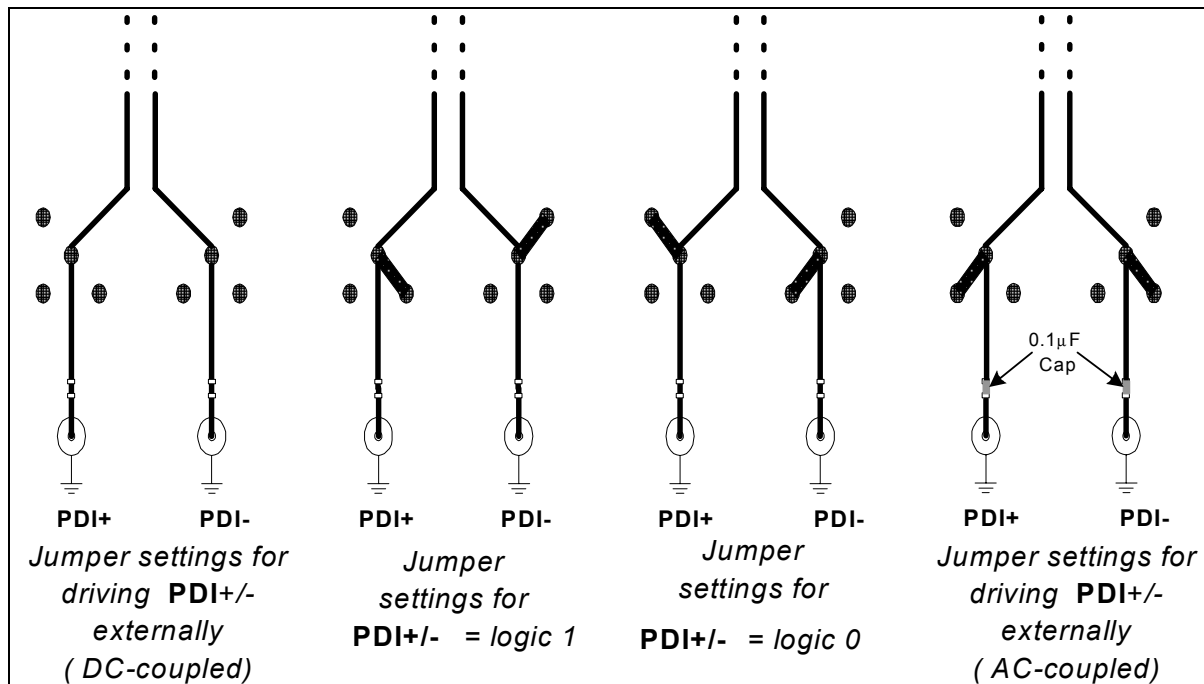

Figure 2. PDI \pm Jumper Settings
The MAX3952 EV kit simplifies evaluation of the MAX3952. The EV kit operates from a +3.3V single supply and includes all the external components necessary to interface with LVDS, CML, and LVPECL inputs/outputs of the MAX3952. The LVPECL inputs (REFCLK \pm) are externally terminated with 100 Ω resistors. The LVDS inputs (PDI \pm , PCLKI \pm) are internally terminated with 100 Ω differential input resistance and therefore do not require external termination. Ensure that LVDS devices driving these inputs are not redundantly terminated. The CML outputs (SDO \pm , SCLKO \pm) are optimized to drive a 50 Ω load. PCLKO \pm , SDO \pm , SCLKO \pm , and REFCLK \pm are AC-coupled with 0.1 μ F capacitors. The LVDS data and clock inputs are DC-coupled, but the lines can be cut and pads are available to allow the placement of AC-coupling capacitors. (See Figure 2)
- 3) Cut the removable traces for all of the PDI \pm and PCLKI \pm inputs and install 0.1 μ F capacitors. (See Figure 2)
- 5) For all PDI \pm inputs, place a shunt in the 2.0k Ω to CMV position. (See Figure 2)